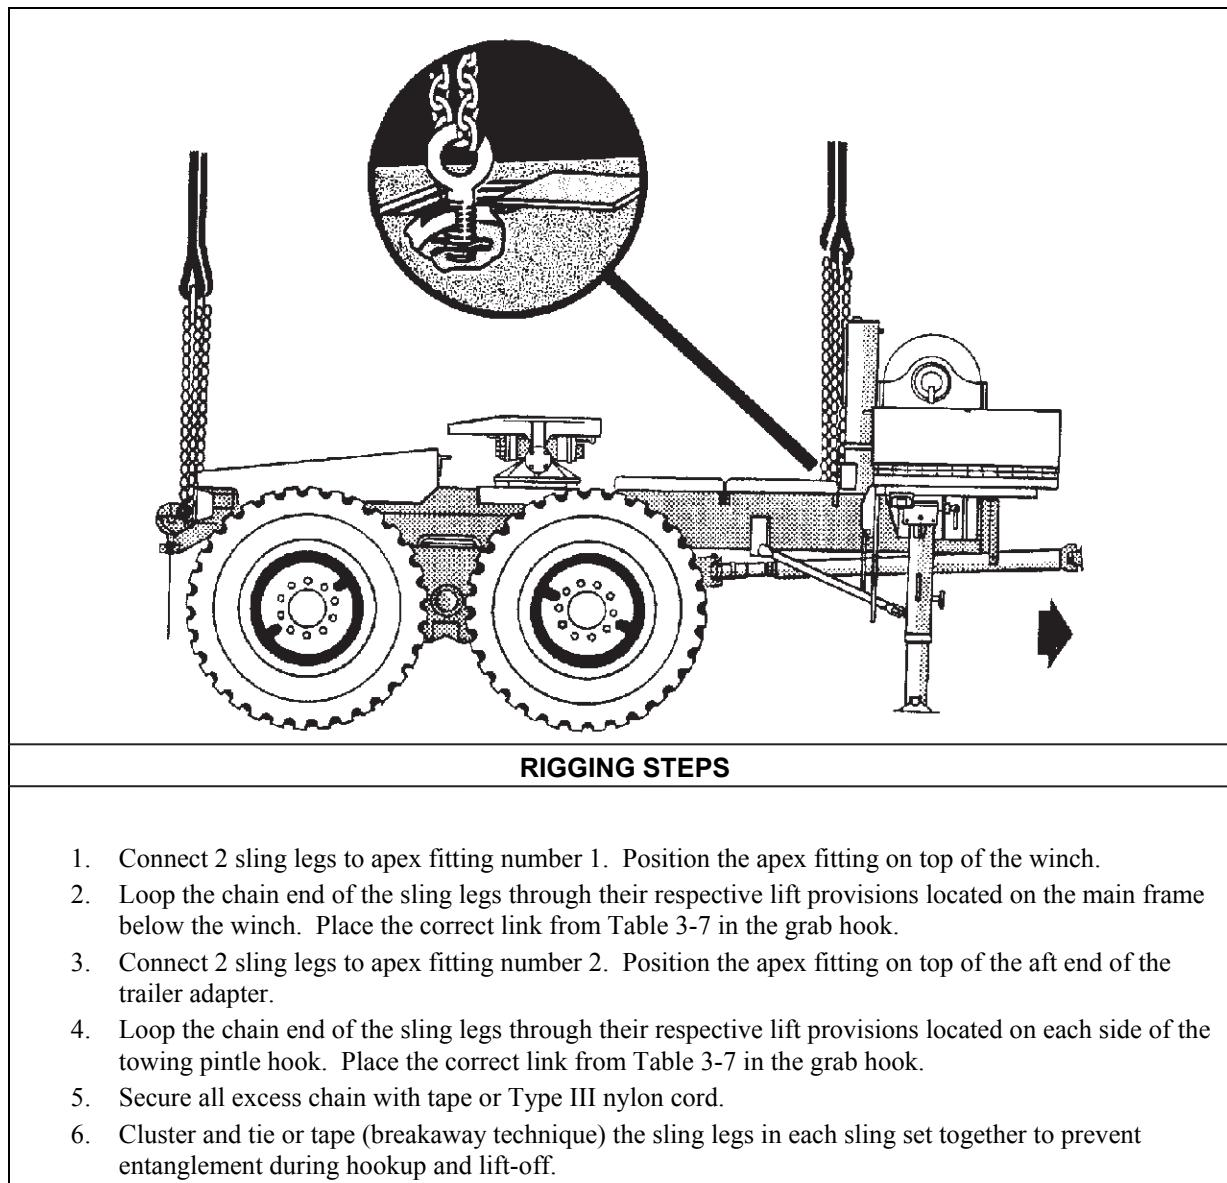

Figure 3-7. Mk16 Trailer, Fifth-Wheel Adapter
- **Rigging.** Rig the load according to the steps in Figure 3-7.